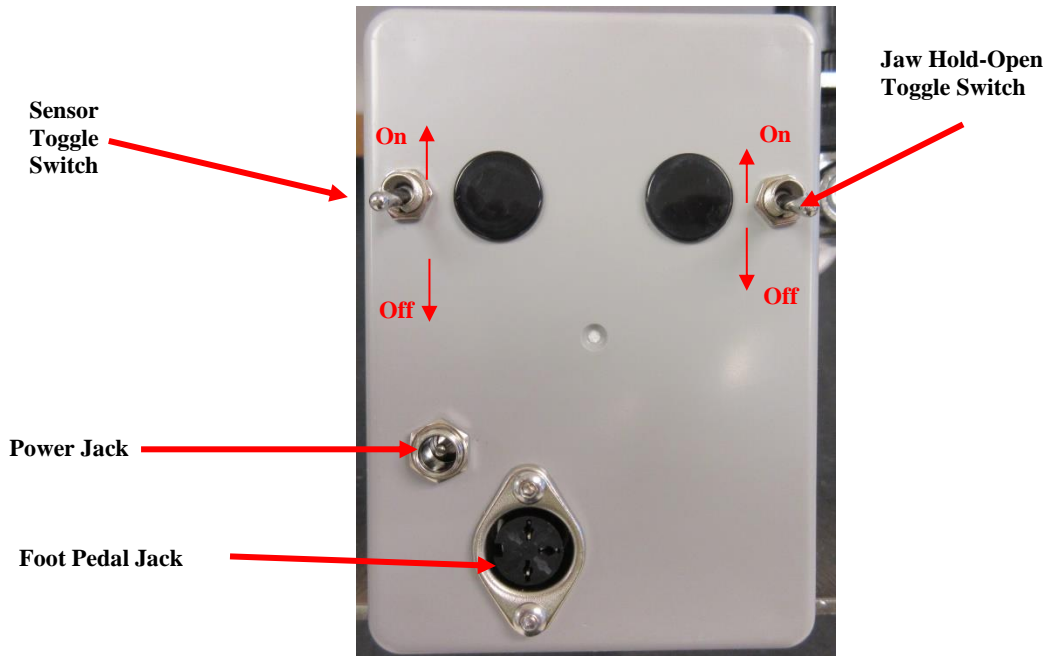
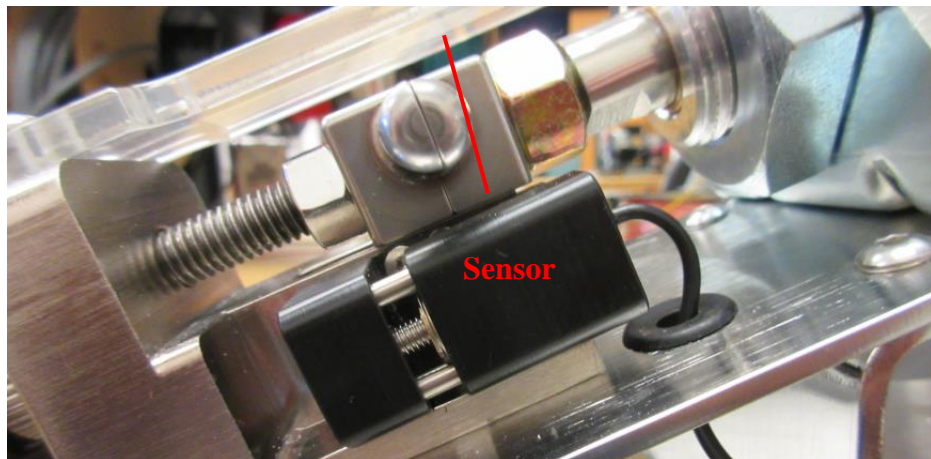

Figure 2.3.1: Electronics enclosure connections
Figure 3.3.1: Photo-sensor line of sight
Setting up the connections on the CRD222 is a simple task. Please reference **Figure 2.3.1** below when making all connections to the back panel:
- With A/C power and compressed air attached to the expander, actuate the sensor or optional electric foot switch, which will activate the expander. Adjust the expander lower jaw to the position you want using the *Thumb Wheel Knob*. Note that the jaws may be set to remain in the “open” position using the toggle switch noted in **Figure 3.3.1**, and triggering the foot pedal. Make sure the toggle switch is returned to the “off” position, or the jaws will remain open.
- The CRD222 is designed to be used with a photo-sensor that will automatically sense the presence of tubing over the jaws. The sensor is aligned against the tangent of the jaw as shown in *Figure 3.3.1* below: **Note:** The unit may be operated with an optional electric foot switch as well. The CRD222 will operate via the electric foot switch, whether or not the Sensor Toggle Switch (see *Figure 2.3.1*) is in the ON or OFF position.
- With A/C power and compressed air attached to the expander, actuate the electric foot switch which will activate the expander. Adjust the expander lower jaw to the position you want using the **Thumb Wheel Knob**. Note that the jaws may be set to remain in the “open” position using the toggle switch noted in **Figure 3.3.1**, and triggering the foot pedal. Make sure the toggle switch is returned to the “off” position, or the jaws will remain open.